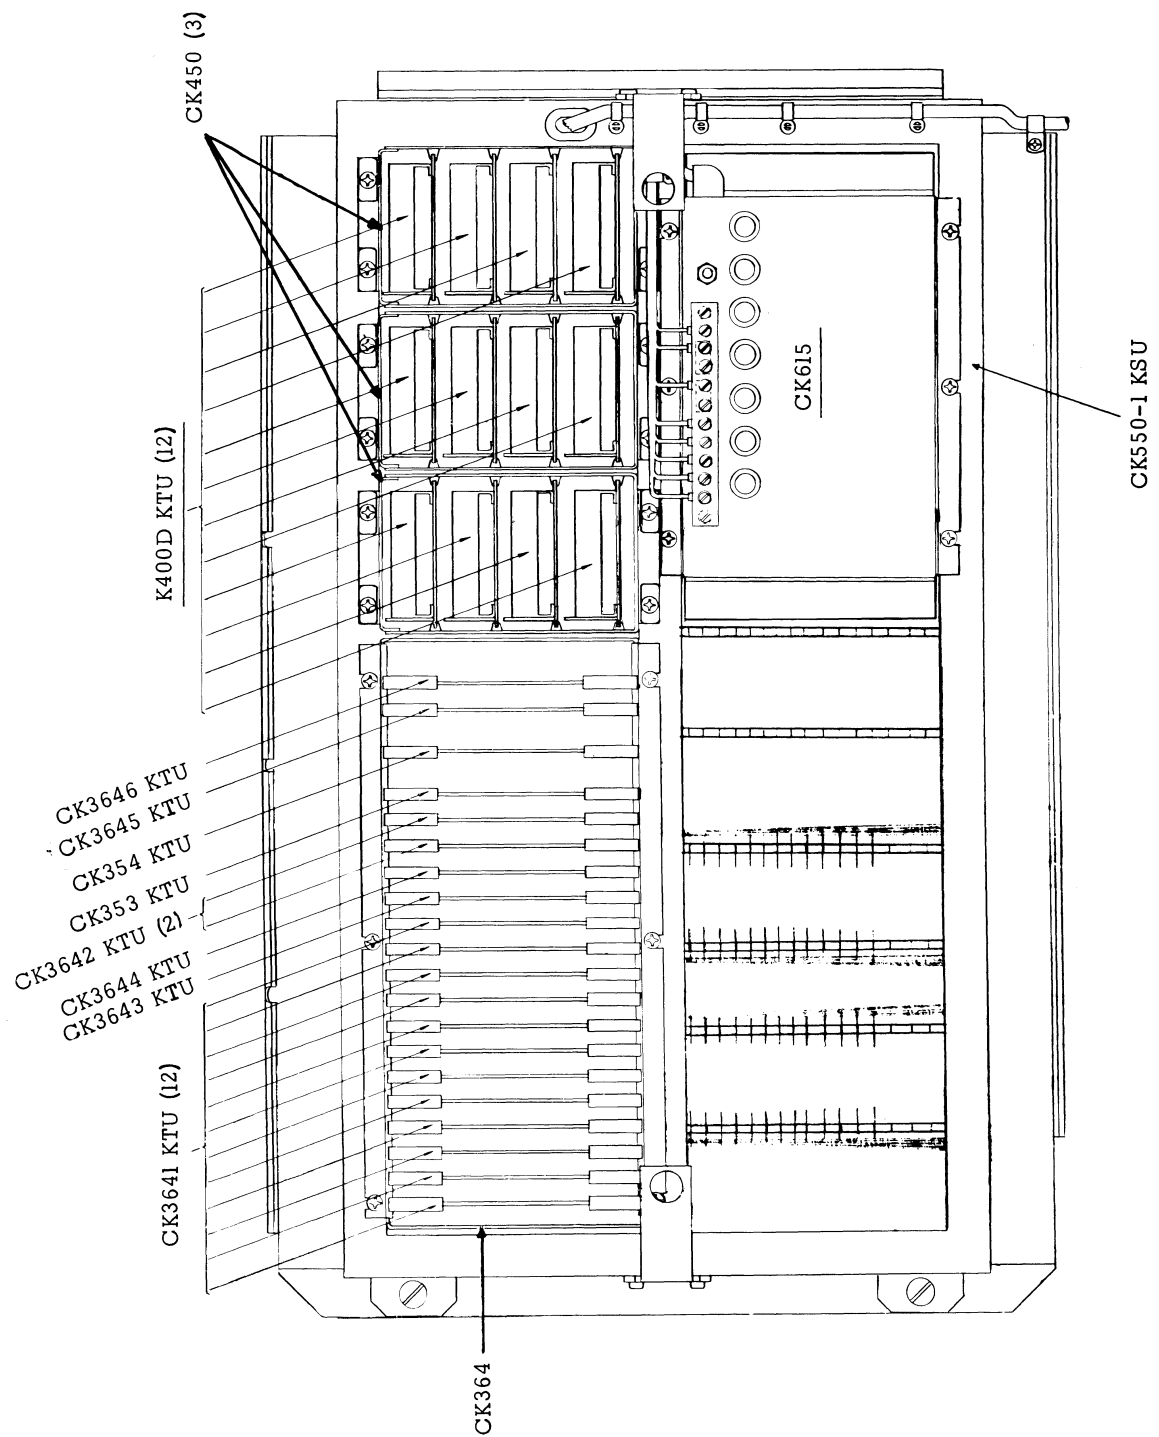

FIGURE 2 Assembly Locations
6.2 Table 1 lists the number of each type of assembly that may be installed in the CK550-1 KSU. The coding scheme for the 36A key telephone system is shown in table 2. Figure 2 shows the location of each assembly. The CK353 and CK354 KTU's are required only when Tel-Touch telephone sets are used on the intercom circuit.